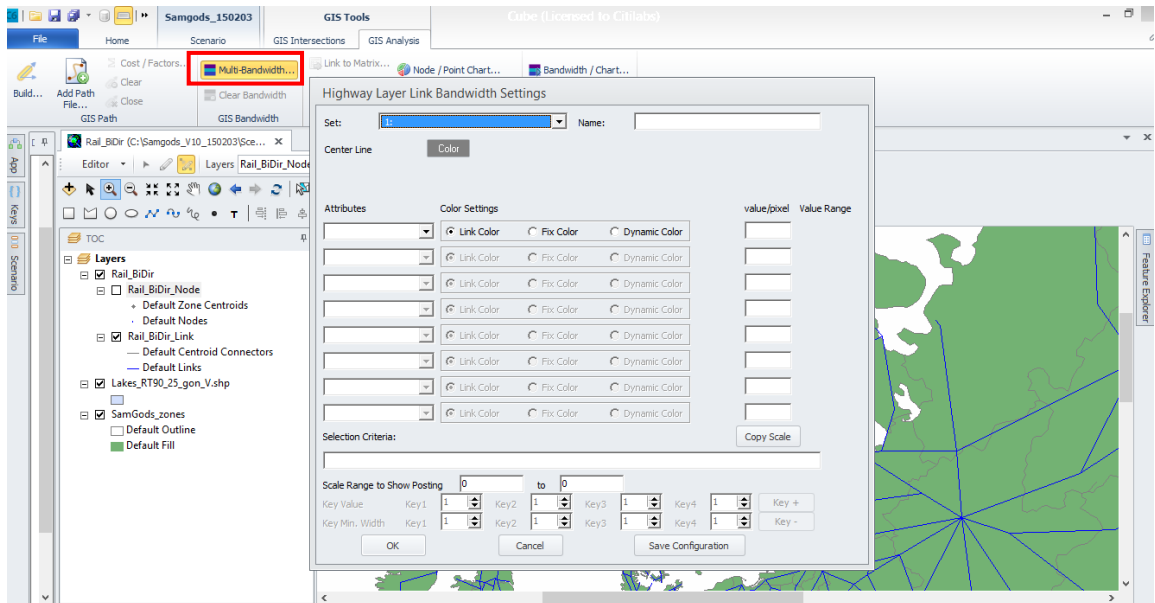

Figure 103 Multi-Bandwidth tool
- 8) Click on the tab "GIS Analysis" in the interface and click on "Multi-Bandwidth tool", see Figure 103.